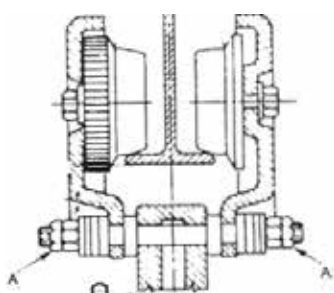

fig.25
5. Apply and tighten the supplied Palmuttem 'A' anti-loosening devices against the outer side of the nuts. (fig.25)
6. Lower the pallet and move the forklift away. (fig.25)